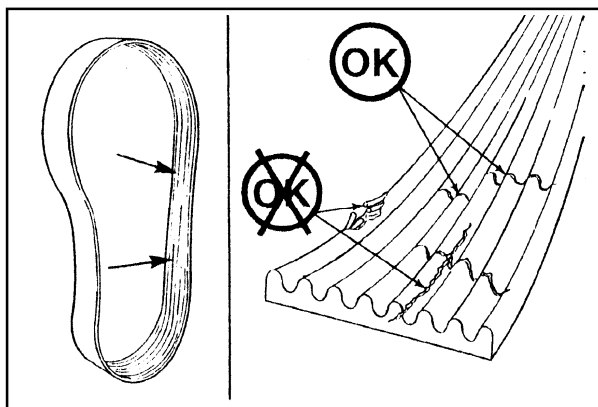

FIG 73-3
**INSPECTION** - Visually inspect the belt daily. Check the belt for intersecting cracks (fig. 73-3). Transverse (across the belt width) cracks are acceptable. Longitudinal (direction of belt length) cracks that intersect with transverse cracks are not acceptable. Replace the belt if it is frayed or has pieces of material missing.